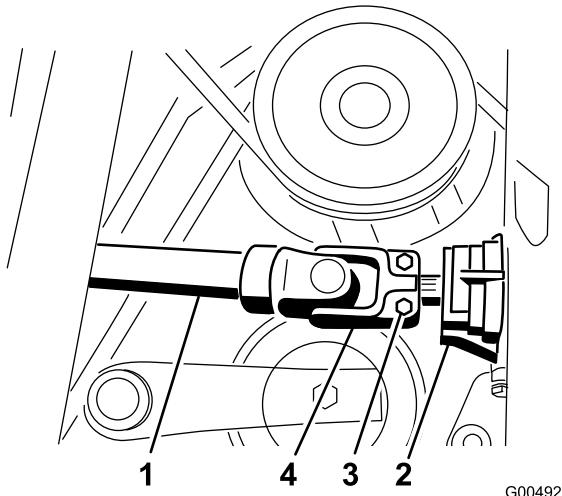

Figure 35
- 4. Loosen the PTO drive shaft bolts and nuts. Remove the roll pin and pull the drive shaft off of the gearbox shaft (Figure 35).